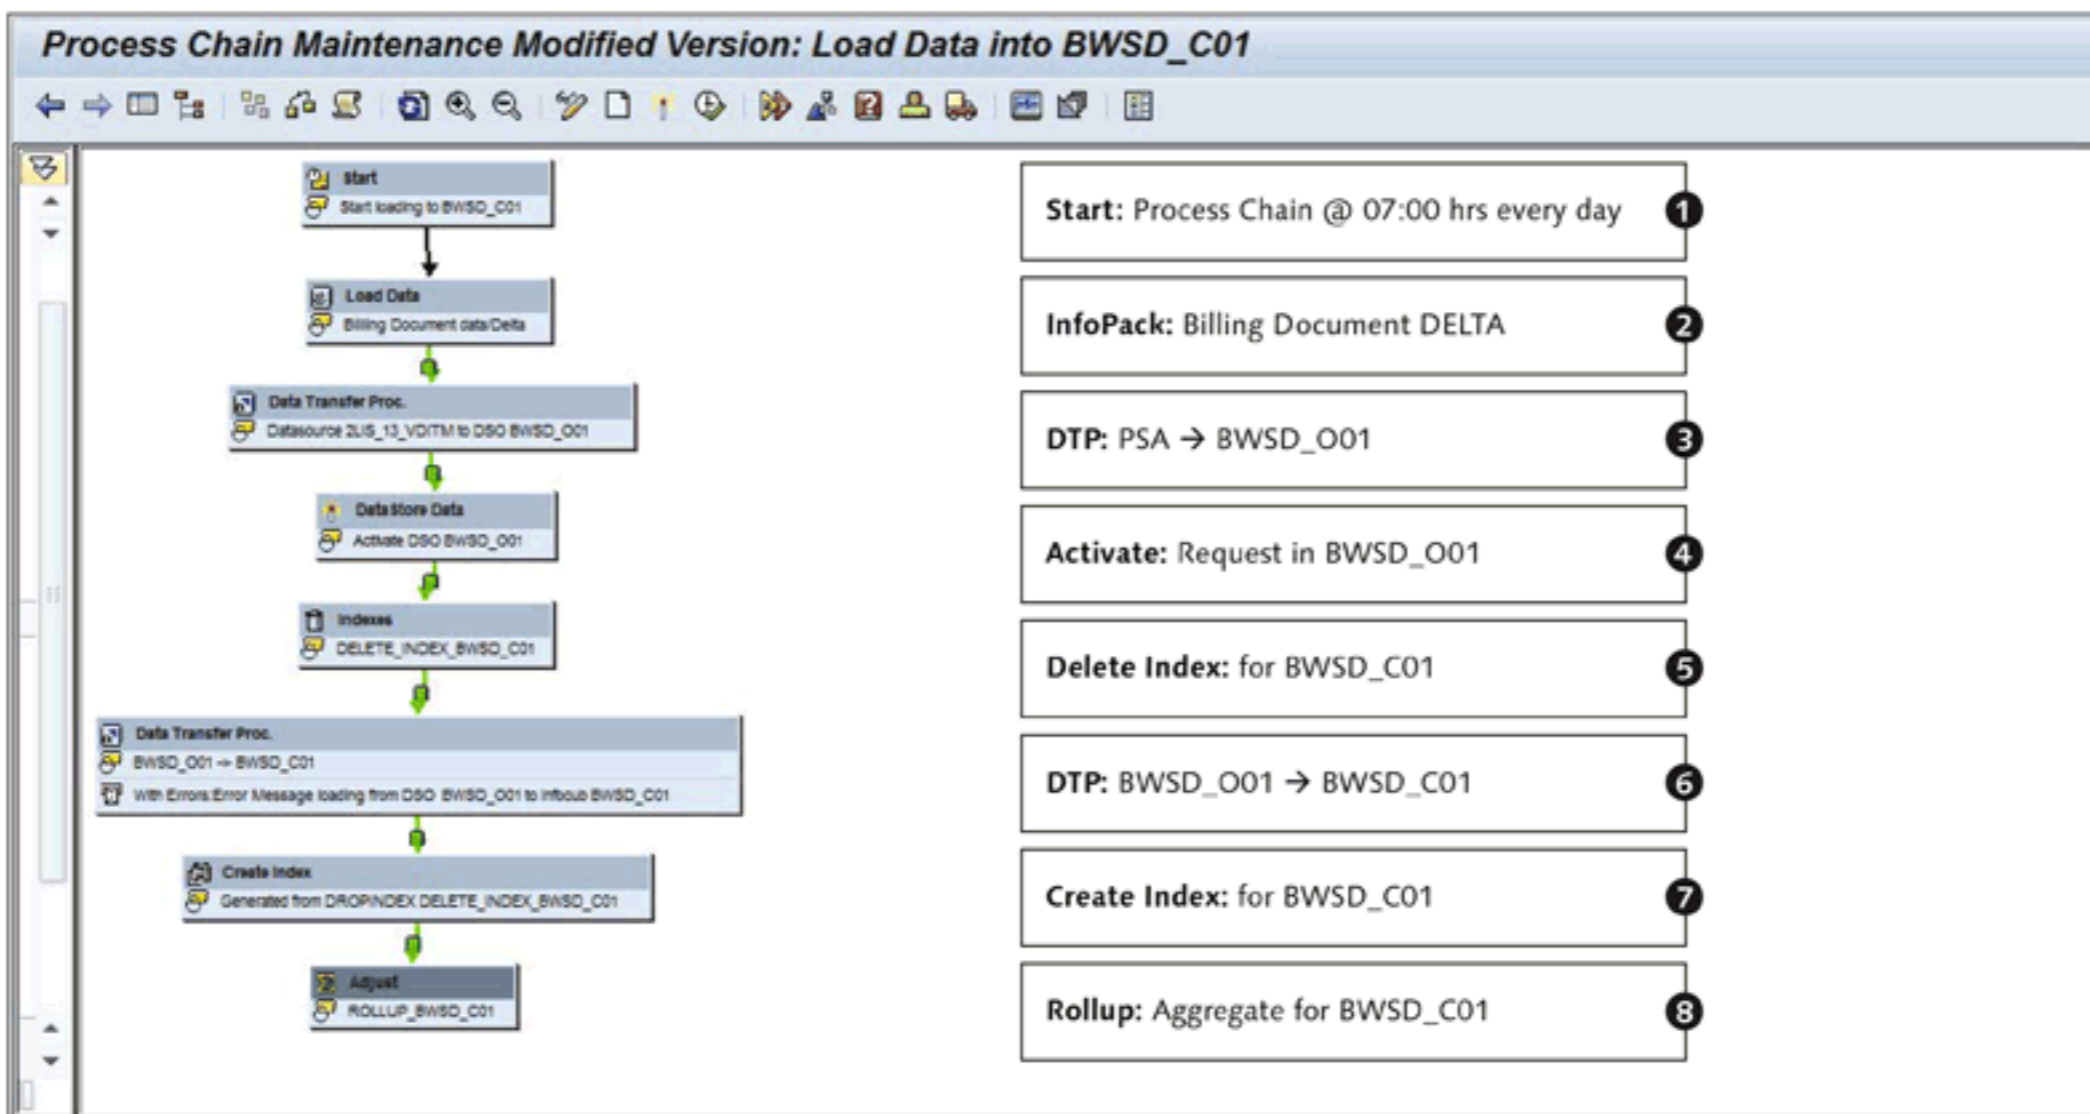

Figure 14.37 Overview of the Process Chain
Check your process chain using the CHECK icon (🔍), and make any necessary corrections (i.e., any changes suggested by the system in the log). If there are no errors, save the process chain, and click on the ACTIVATE icon. A new process chain (technical name: BW_LOAD_BWSD_C01; text description: LOAD DATA INTO BWSD_C01) is ready to be scheduled. As you can see, the active process chain matches the steps stated in the beginning of the section (Figure 14.37).
Now schedule the process chain using the SCHEDULE icon () , which will automate the process of data extraction from the SAP ERP system every day at 7:00 a.m. (❶ through ❸ of Figure 14.37).